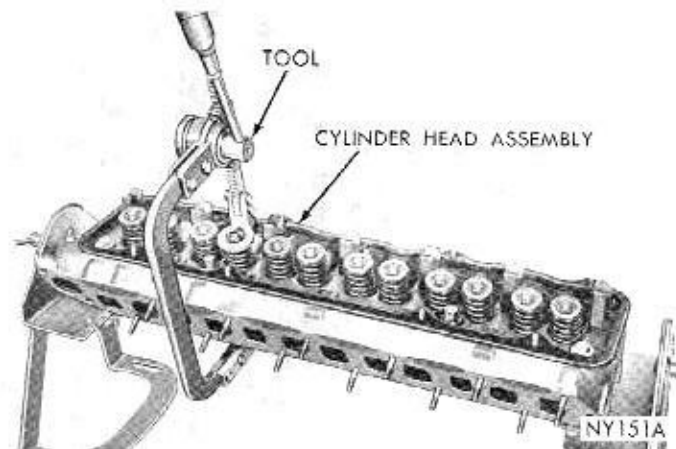

Fig. 9—Compressing Valve Spring
(1) With cylinder head removed, compress valve springs, using Tool C-3422A (Fig. 9).
(2) Remove valve retaining locks, valve spring retainers, valve stem cup seals and valve springs.